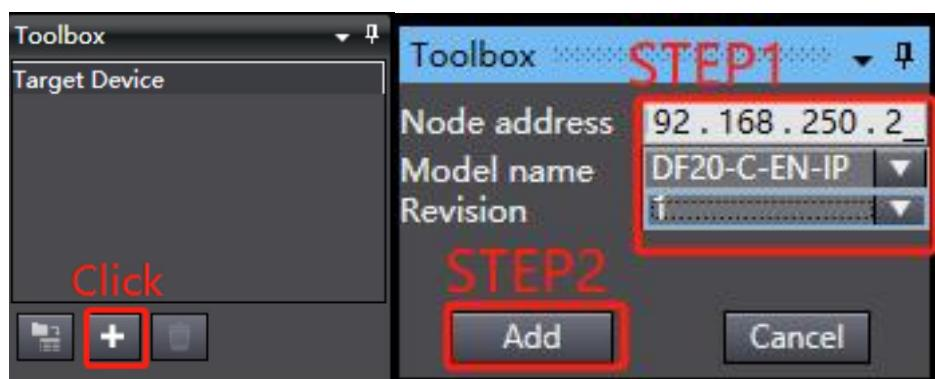

Figure 5-2-12
- Add the device that needs to communicate and the configuration parameters. Select "Add Target Device" in the toolbox. The user needs to fill in the EtherNet/IP Slave IP address, slave model, revision, and click the "Add" button in the lower left corner of the motor after completion, as shown in Figure 5-2-12.